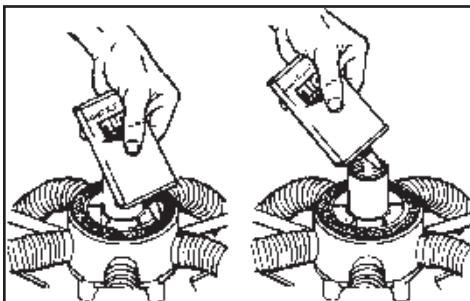

Figure 6-5. Lubricate Vacuum Seal on Top of Hub
12. Lubricate the felt vacuum seal on top of the hub with a quality, 30 weight SAE motor oil. Also, put a few drops into the hub threads (see Figure 6-5).